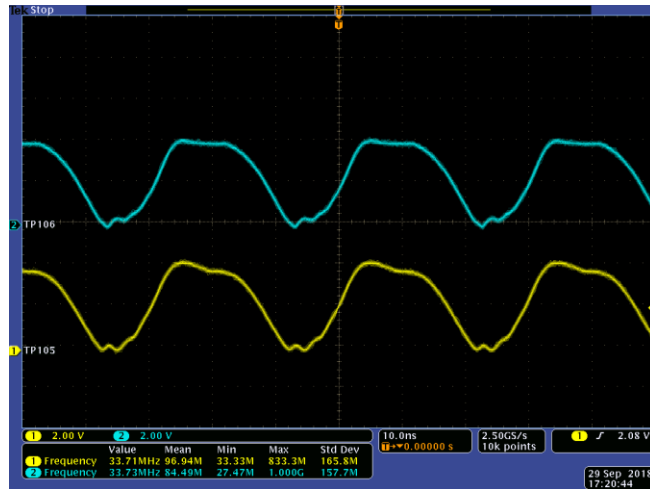

Figure 4.7. Output Clocks with Slow Slew Rate (Frequency Setting is 33.25 MHz)
- After the programming is successfully completed, you can use oscilloscope to probe **TP105** and **TP106**. There are duplicated clock waveforms, as shown in Figure 4.7.